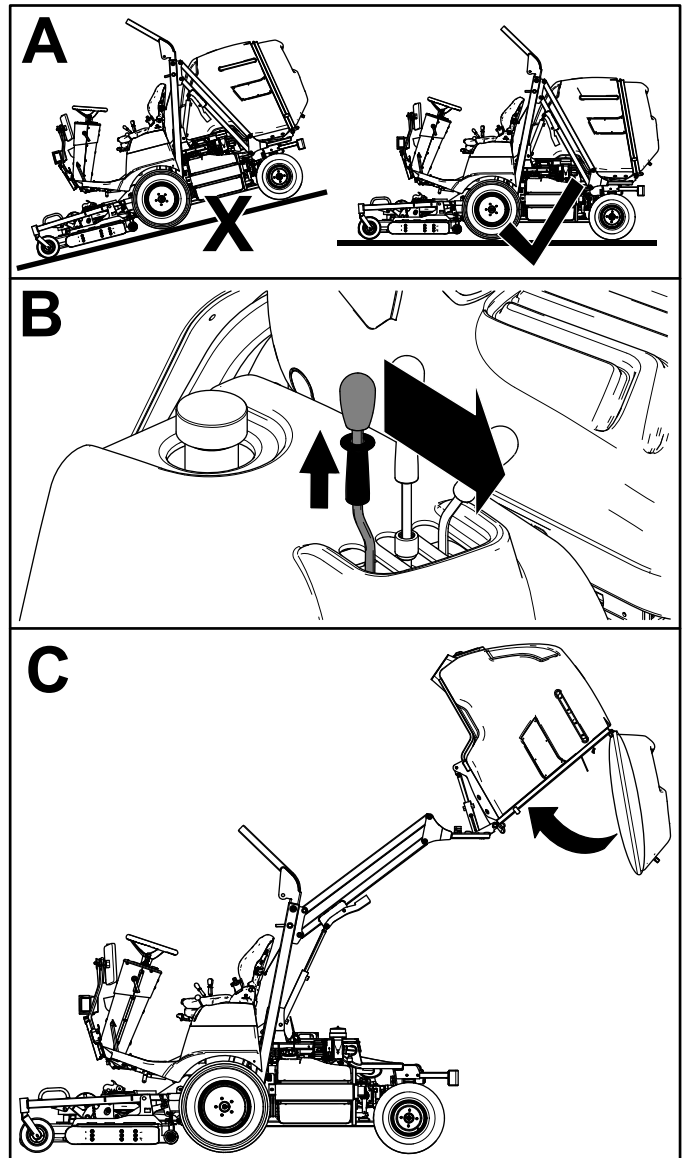

Figure 26
2. After dumping, pull the lock collar on the hopper dump lever up and move the lever forward to close the hopper (Figure 26).